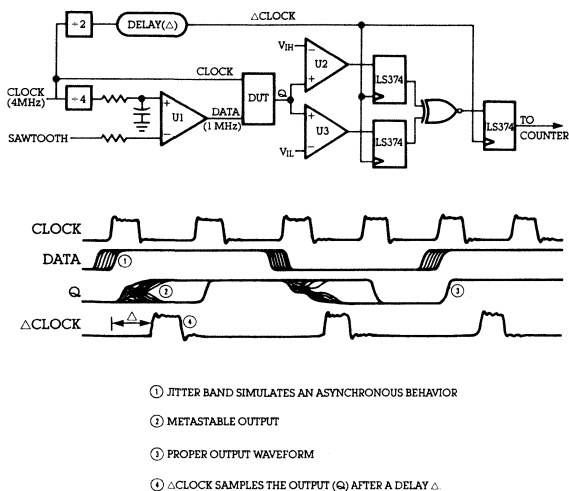

Figure 7
The circuit shown in figure 7 is used to obtain experimental results of a metastable device. The circuit can detect and count the number of events of metastability. The device under test (DUT) is forced into metastability by repeatedly sweeping the edges of the data past the rising edges of the clock. The modulation of the data is possible by using a comparator device (U1) along with an external sawtooth waveform. Thousands of transitions are created within the setup and hold time window of the DUT. Sweeping the data edges past the low to high clock transitions simulates an asynchronous input and increases the probability of getting a metastable failure on the output (Q) of the DUT.